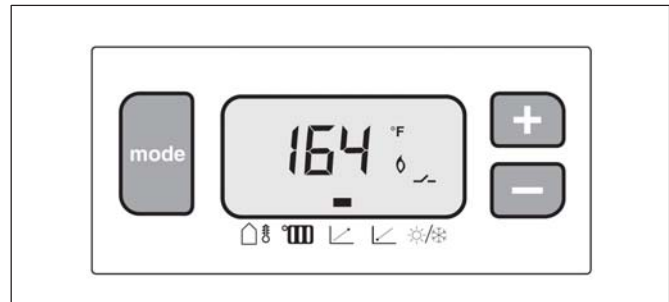
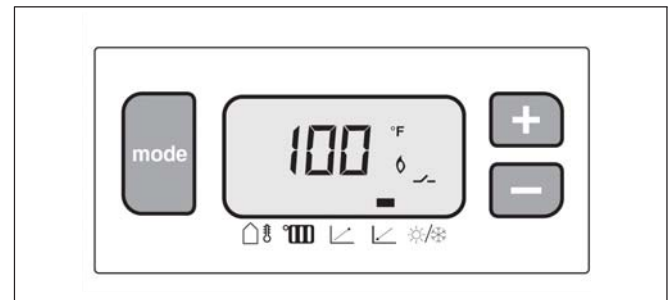

Fig. 28 Heating curve upper value (14 °F)
Fig. 29 Heating curve lower value (68 °F)
- Define the heating curve by entering two distinct set points. (A) Supply water temperature at 14°F (-10°C) outdoor temperature (Fig. 28), and by pressing the mode key again, (B) supply water temperature at 68°F (20°C) outdoor temperature (Fig. 29).